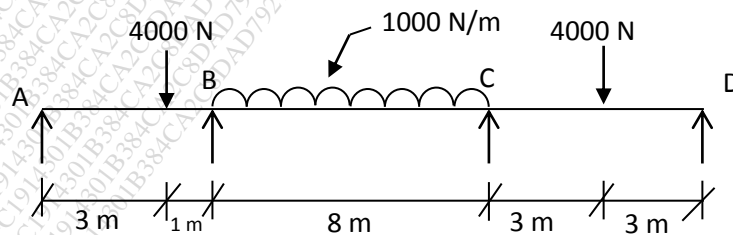

Fig. 2
- Q.3 A continuous beam ABCD is loaded as shown in fig. 2 During loading support B sinks by 1 Cm. Find 15 support moments using slope deflection equation method. Take $I = 800 \text{ cm}^4$ $E = 2 \times 10^5 \text{ N/mm}^2$ & Draw BMD.